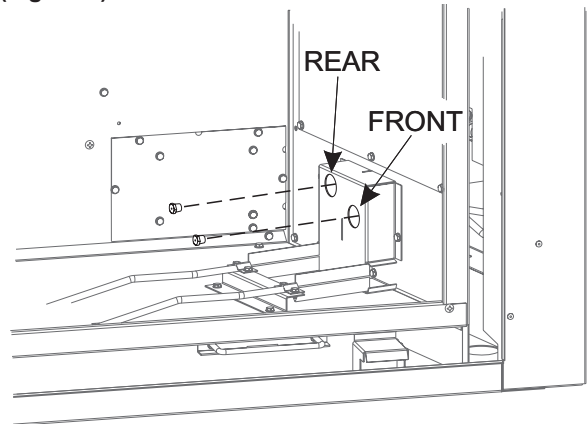

Figure 5
6. Use a 7/16 inch deep socket set to remove orifices. (Figure 5)